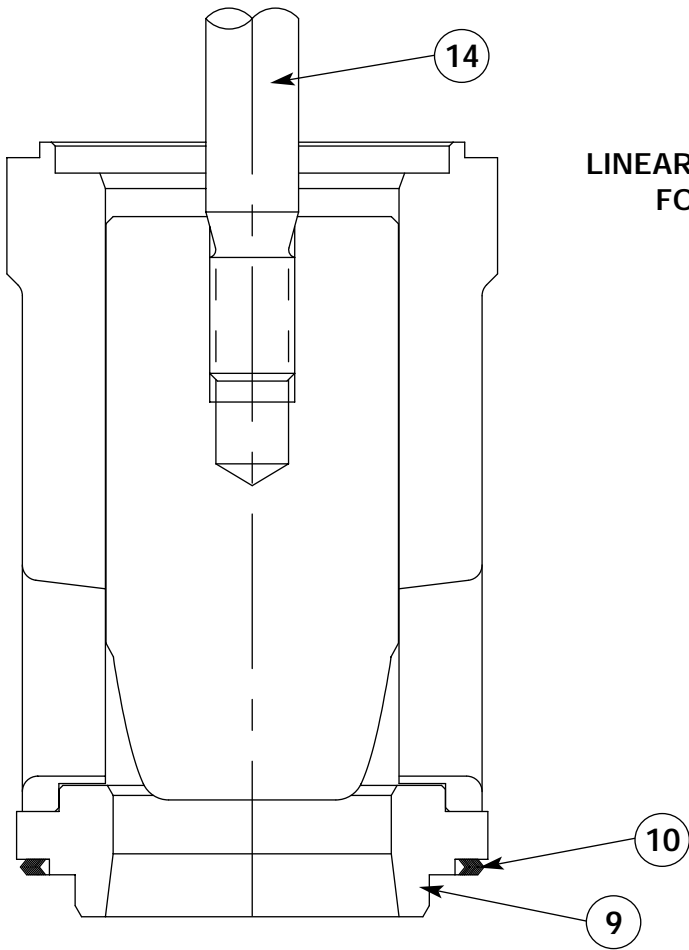

FIG. 5A
- 4f. PLUG THROTTLING LINEAR, EQUAL PERCENT, MINI-P AND MICRO TAPER PLUGS (See Fig. 5A - 5C) Guide plug into cage until plug rests on seat ring.